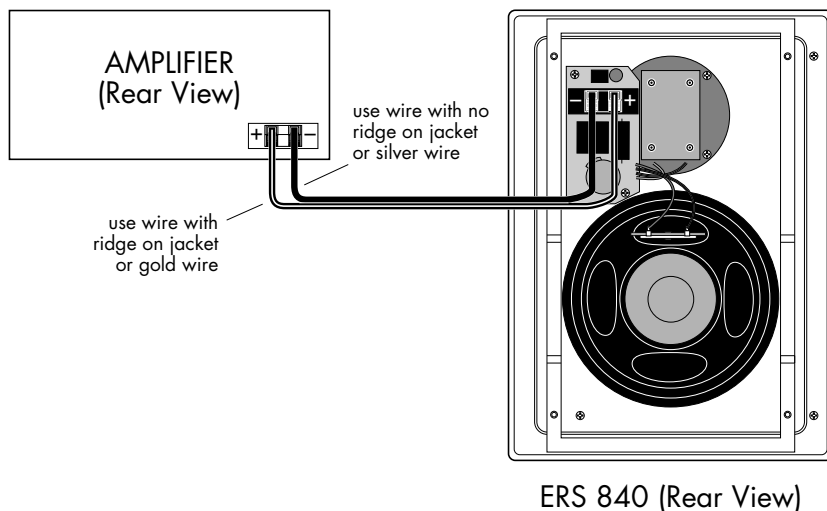

Figure 3. Example of correct wiring connections used on the ERS 840. Other models are wired similarly.
- Strip the ends of the speaker wires about $\frac{3}{8}$ ". Twist the wire strands together for terminal insertion. Connect the speaker wires to the appropriate speaker terminals on each speaker, as shown in Figure 3.